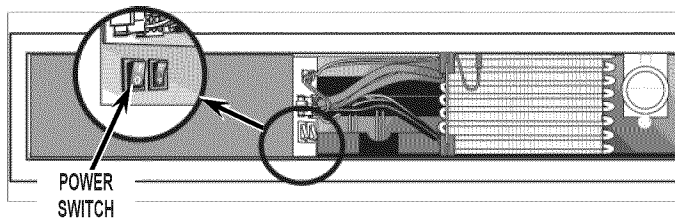

FIGURE 1
2. Turn off power. See *Figure 1*.
18. Turn on power. See *Figure 1*.